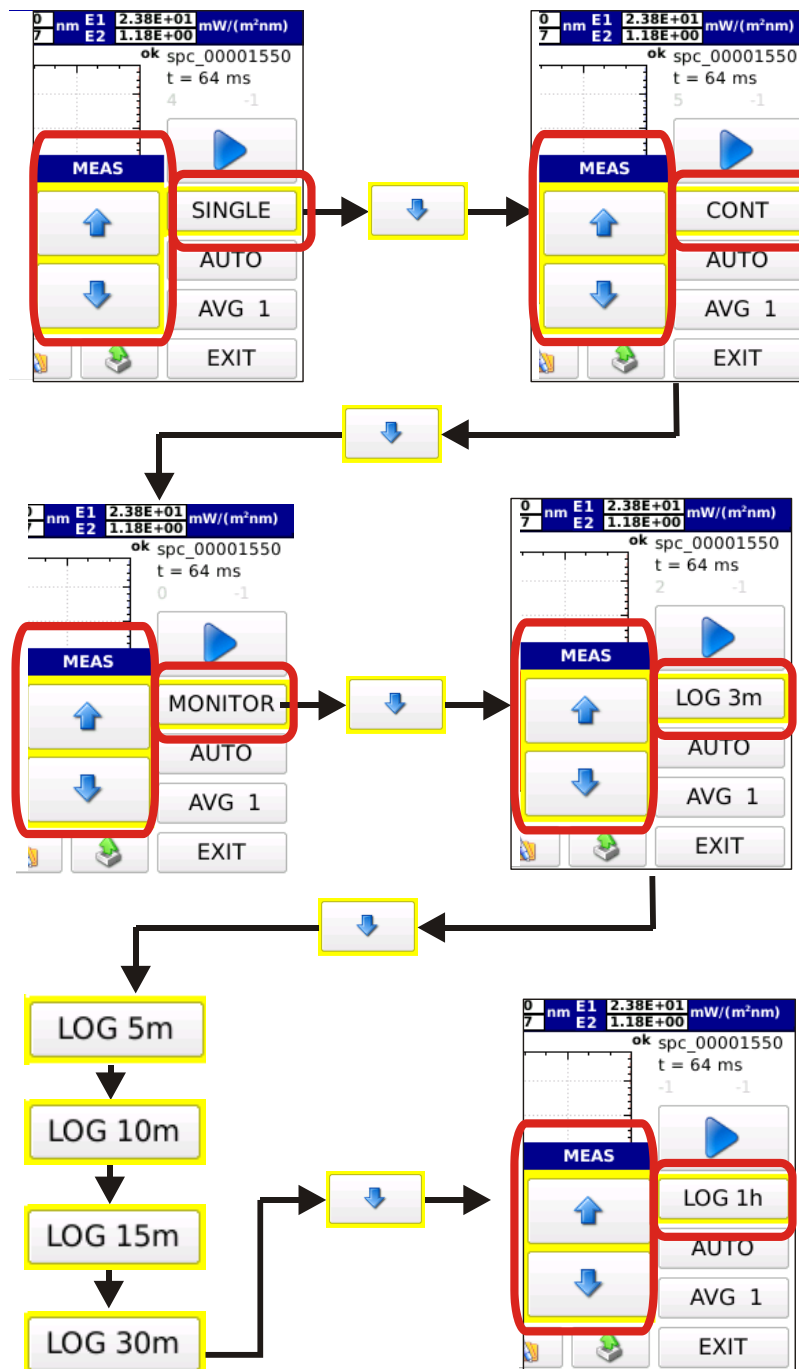

Fig. 3.5: operating mode selection using the arrow keys
3.1.1. Select the operating mode of the instrument among the available four modes (SINGLE, CONTINUE, MONITOR, LOGGING). By pressing the SINGLE button, two arrow sliders are displayed; by pressing the “down arrow” button, the operating mode changes as shown on Fig. 3.5.